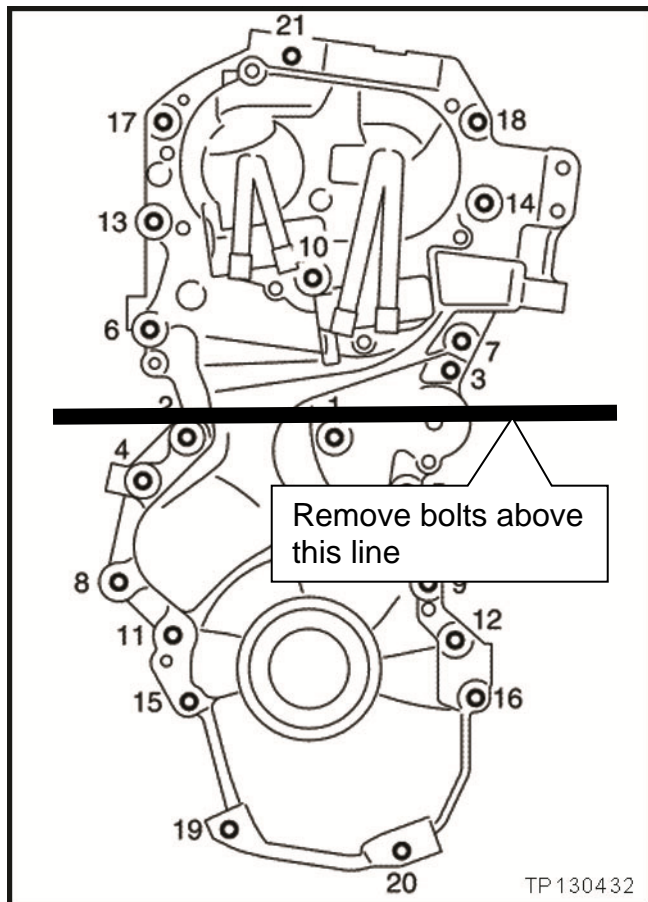

Figure 28
- Remove the bolts above the line shown in Figure 28.